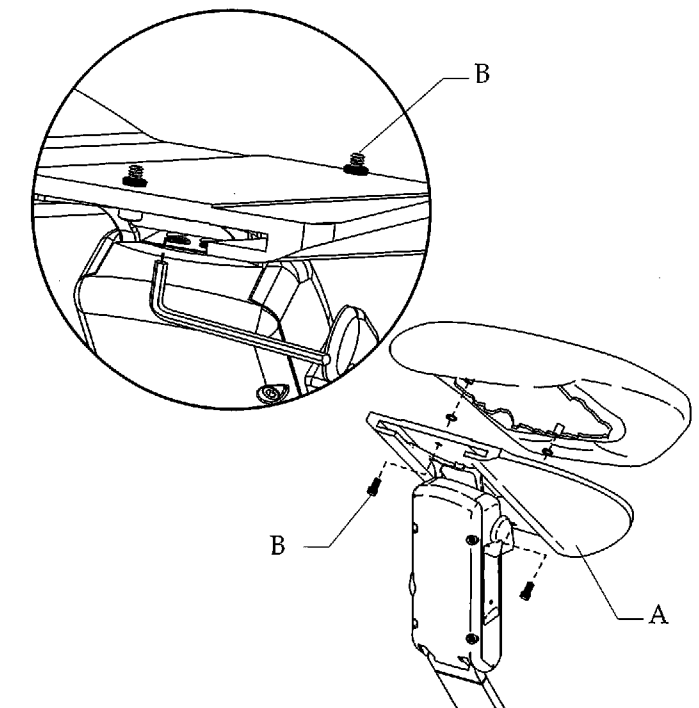

Figure 78. Add the headrest upholstery. (A) headrest plate; (B) screws and O-rings
1. Rotate the headrest plate so both screw holes are accessible (see Figure 78).